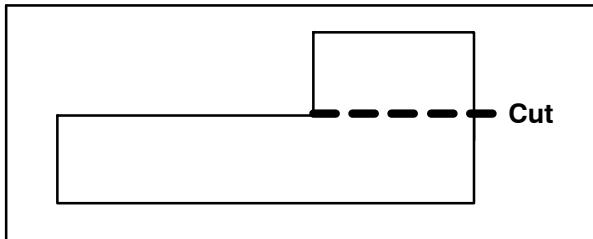

FIG. 1-NTS
- Cut the rear cab seal (11) into two pieces. Refer to Fig. 1.